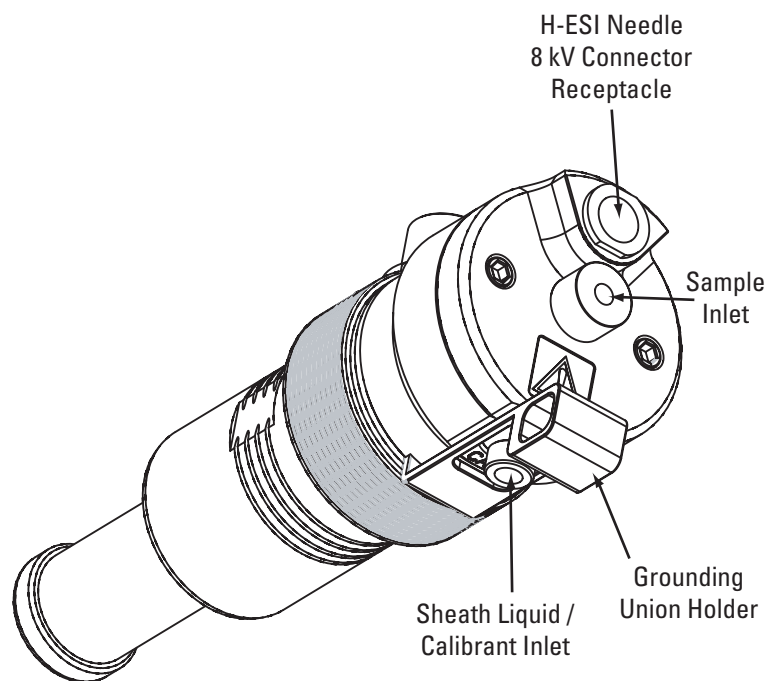

Figure 2-12. H-ESI probe, rear view
7. Ensure that the grounding union (stainless steel ZDV fitting) is seated in the grounding union holder on the H-ESI probe. See Figure 2-12.
12. Connect the 8 kV cable to the H-ESI needle high voltage receptacle on the H-ESI probe. See Figure 2-12. Tighten the locking ring on the 8 kV connector.